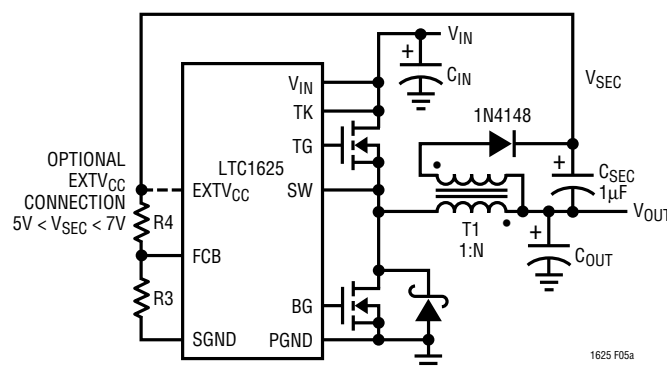
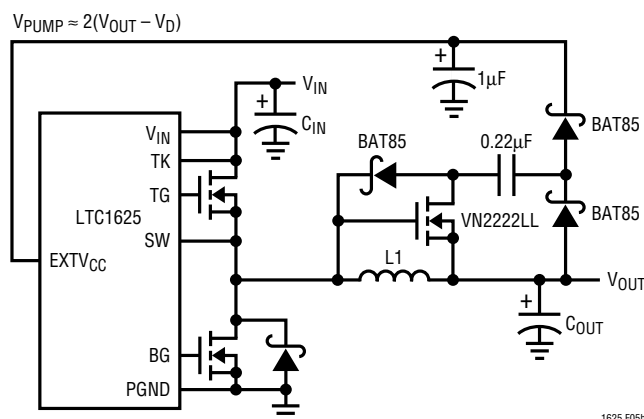

Figure 5a: Secondary Output Loop and $EXTV_{CC}$ Connection
Figure 5b: Capacitive Charge Pump for $EXTV_{CC}$
3. $EXTV_{CC}$ connected to an output-derived boost network. For 3.3V and other low voltage regulators, efficiency gains can still be realized by connecting $EXTV_{CC}$ to an output-derived voltage which has been boosted to greater than 4.7V. This can be done with either an inductive boost winding as shown in Figure 5a or a capacitive charge pump as shown in Figure 5b.